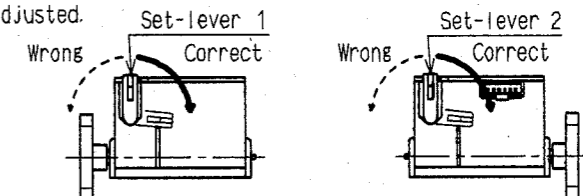

Fig.3
①	上限 UPPER LIMIT	下限 LOWER LIMIT	赤 Red 黒 Black
②	下限 LOWER LIMIT	上限 UPPER LIMIT	青 Blue 黒 Black
(4) Be sure Set-lever is turned 90° to the arrow of direction (Inside). (Refer to Fig.3)